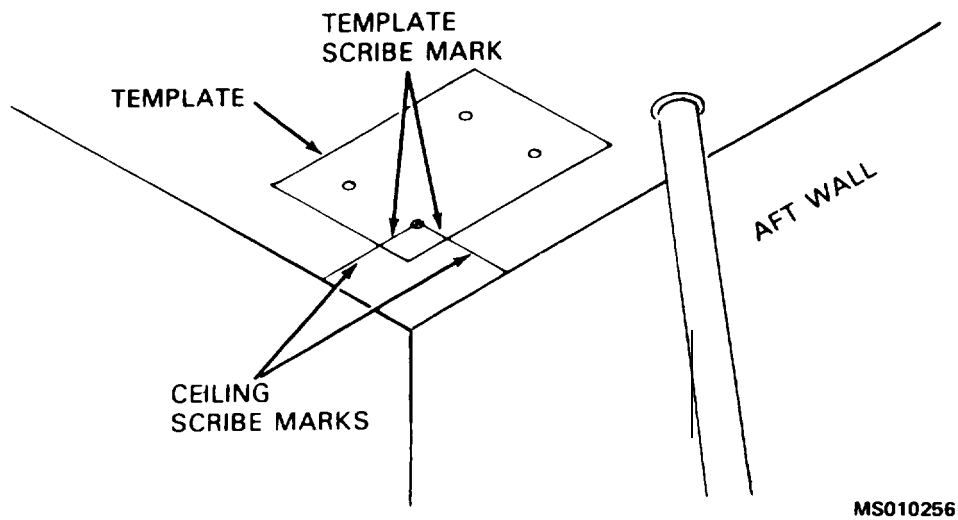

FIGURE 3-13. VEHICLE POWER CONDITIONER HOLE LOCATION
c. Align template scribe marks with scribe marks on ceiling of APC as shown in figure 3-13.